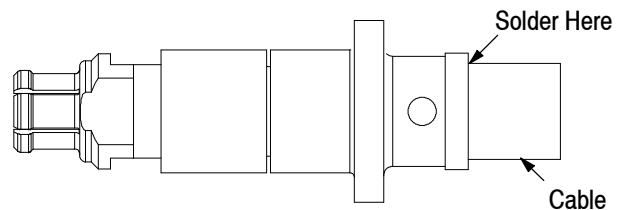

Figure 4
4. Insert the cable center conductor into the center contact inside the rear shell of the cable plug until the cable bottoms. No braid strands should be exposed. See Figure 4.
5. Holding the cable center conductor in place and using 60/40 solder, attach the rear shell to the cable as shown in Figure 4.